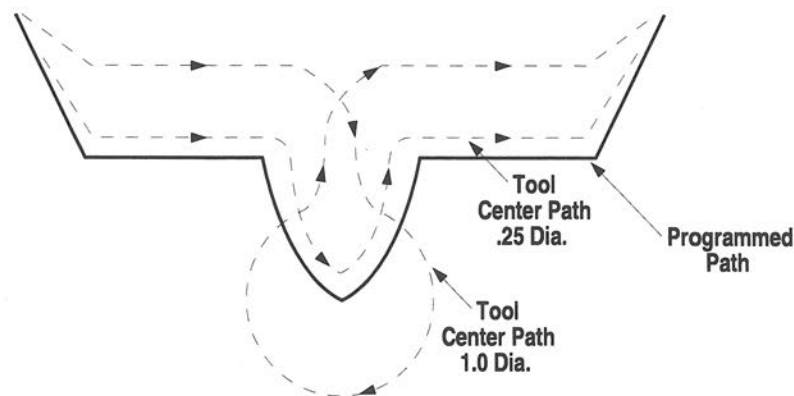

Figure 7-4
1. If the part program calls for cutting a concave or notch-like feature in the part, the cutter diameter must be no greater than the diameter or width of the feature to be cut. If the cutter diameter is larger than the width of the feature to be cut, gouging occurs, as in Figure 7-4, below.